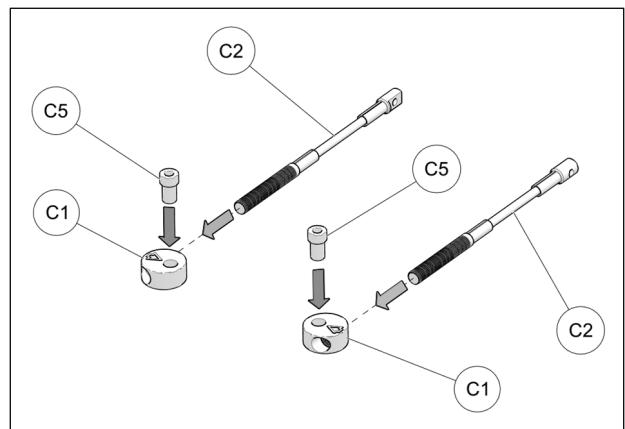

Fig. 20
10. Assemble steering limiter cables (C2), aluminium disks (C1) and step spacers (C5) together as shown on Fig. 20